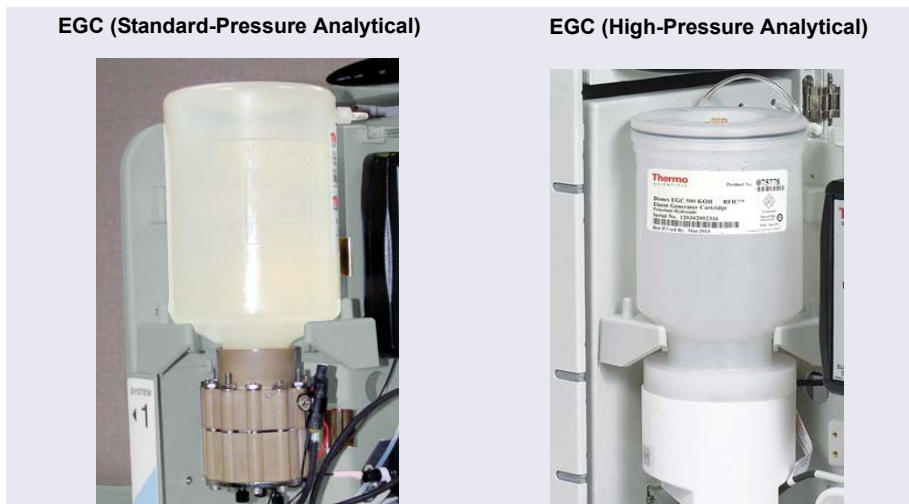

Figure 9-25. Analytical Dionex EGC Installed in Holder
- Slide the Dionex EGC (with the electrolyte reservoir on top) into the holder in the EG (see Figure 9-25).